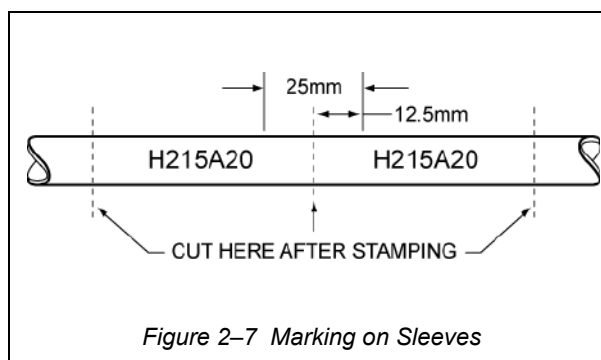

Figure 2–7 Marking on Sleeves
43. Cut marked tubing into lengths so that marking is approximately centred (refer to Figure 2–7). Install cut lengths of tubing over wire or cable at desired spacing,
44. Identify wire bundles and harnesses (see Figure 2–8) by one of the following methods: